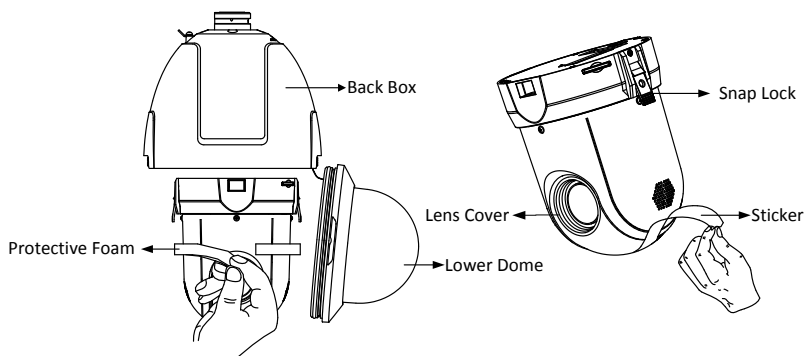

Figure 1-9 Disassemble the 5-inch Speed Dome
- (1) For the 5-inch speed dome, loosen the two lock screws on the both side of the speed dome. Pull the lower dome to separate it from the back box as shown in Figure 1-9 (left).
- (2) Remove the protective lens cover, foam and sticker, as shown in Figure 1-9.
- (3) For the 5-inch speed dome, push the two snap locks towards the Camera Module and pull the Camera Module out from the back box.